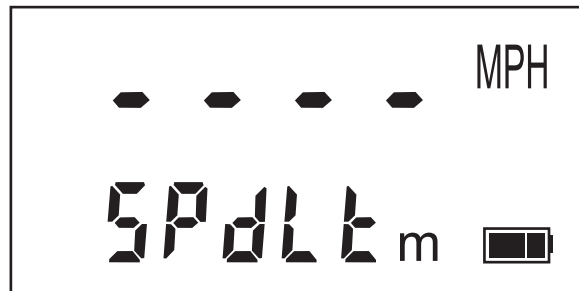

Figure 20
- “SPdLt” will appear in the lower display on the initial Speed Measurement Screen as Figure 20 shows.